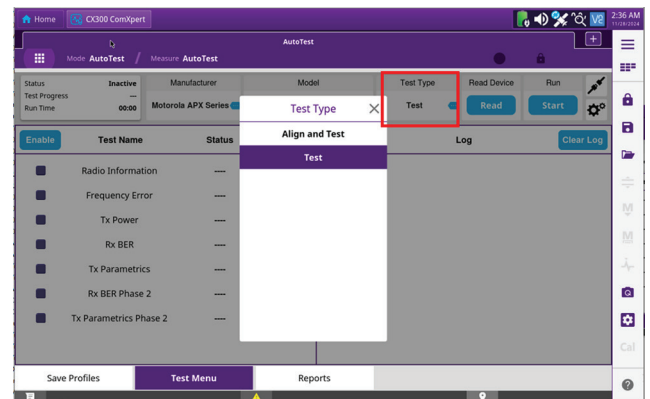

Figure 5
- Tap the **"Test Type"** and select **"Test"** or **"Align and Test"** (Fig. 5)